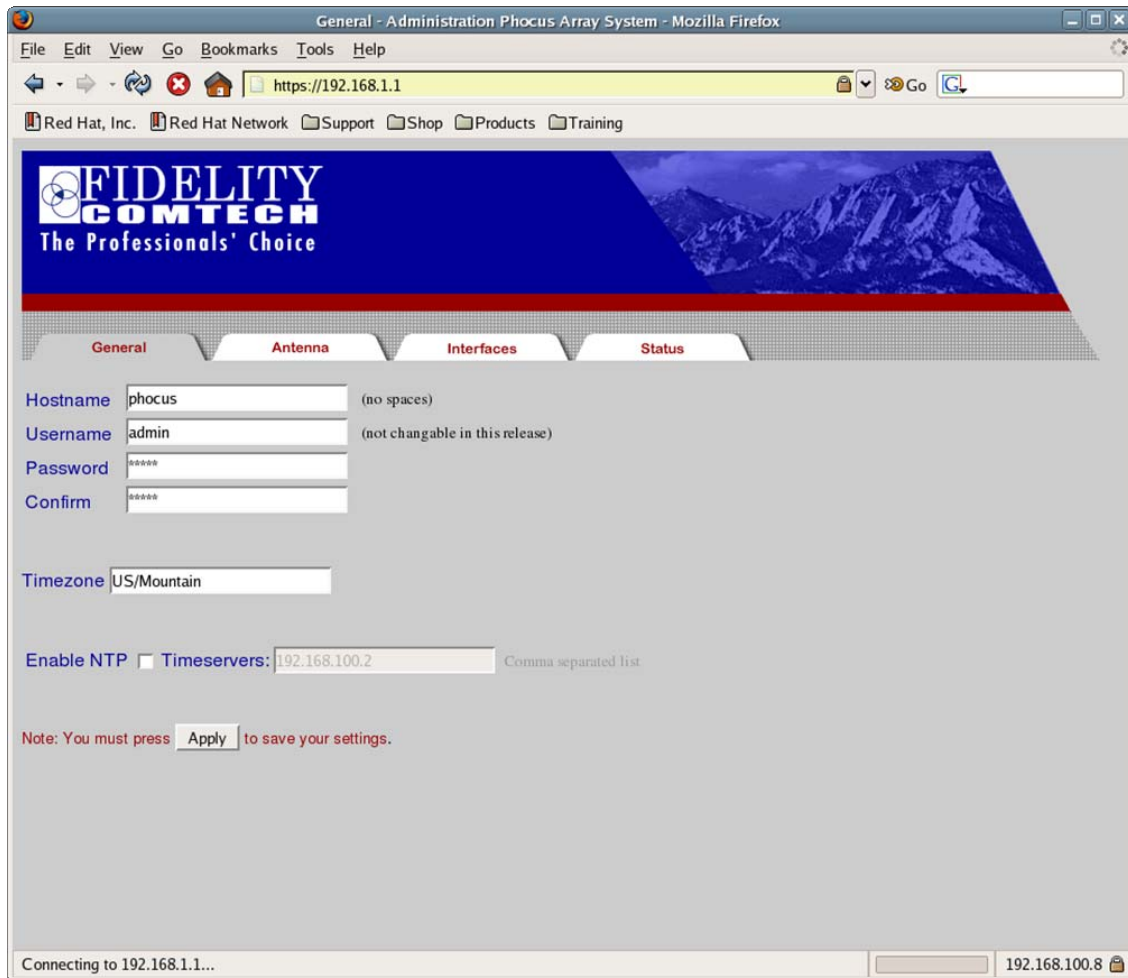

Figure 13 - Phocus Array System Home Screen
4. When prompted for a username and password, type **admin** for username and **admin** as the password. The home screen shown in Figure 13 should be displayed.